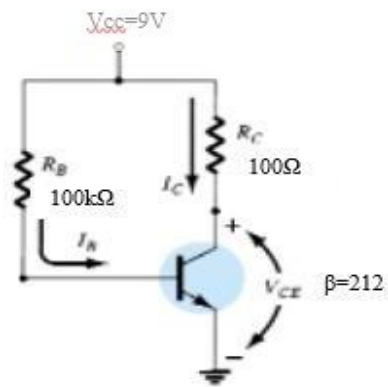

Figure 3.45
13. Determine the following for the fixed-bias configuration of Figure 3.45.